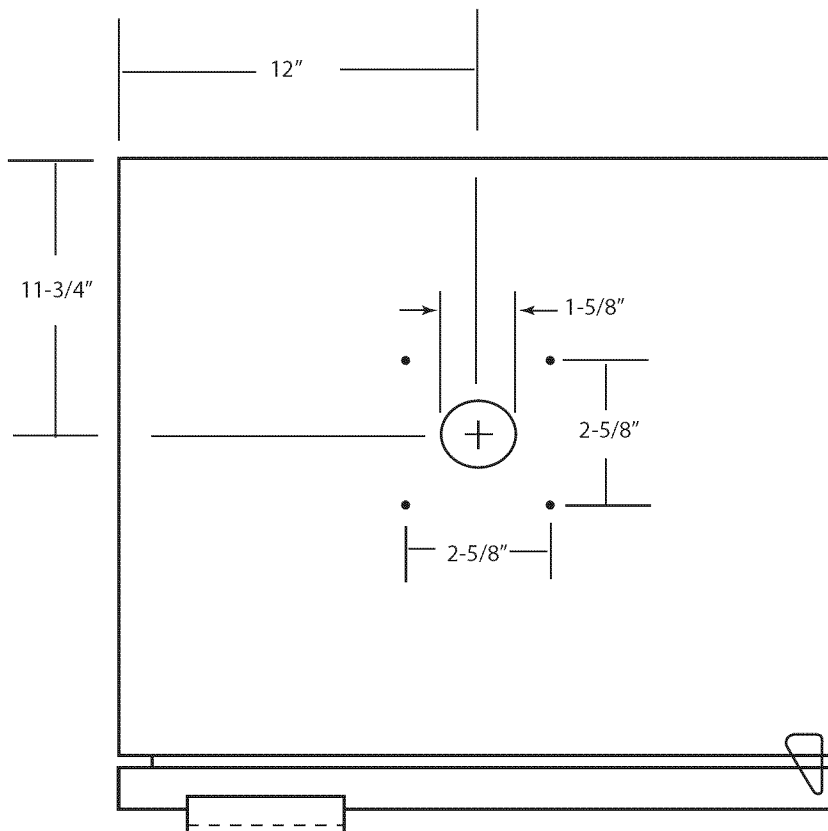

Fig. 05
All holes must be sealed to prevent air leak. Placement of the tower can be done by cutting a hole in the counter top directly above the existing hole of the Beer Dispenser unit (refer to tower template for dimensions Fig. 05).
2. Drill four 1/8" pilot holes at 2-5/8" apart using the large hole as a center point (see Fig. 05).